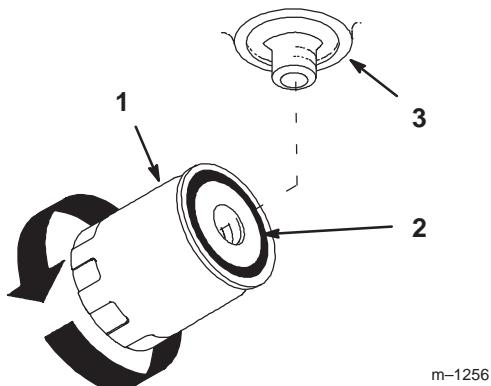

Figure 46
- Apply a thin coat hydro fluid to the rubber gasket on the replacement filter (Fig. 46).
- When fluid overflows filter turn the oil filter clockwise until the rubber gasket contacts the filter adapter, then tighten the filter an additional 1/2 turn (Fig. 46).